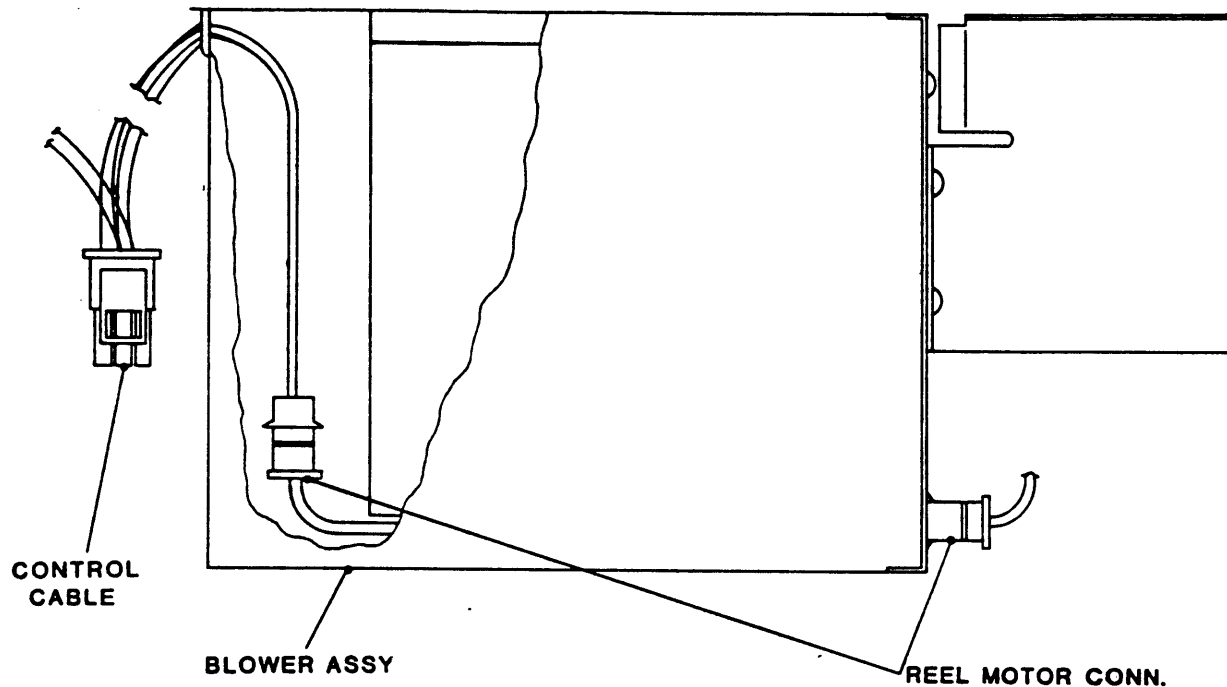

Figure 4-15 Blower Assembly
4.3.17 BLOWER ASSEMBLY (Fig. 4-15)